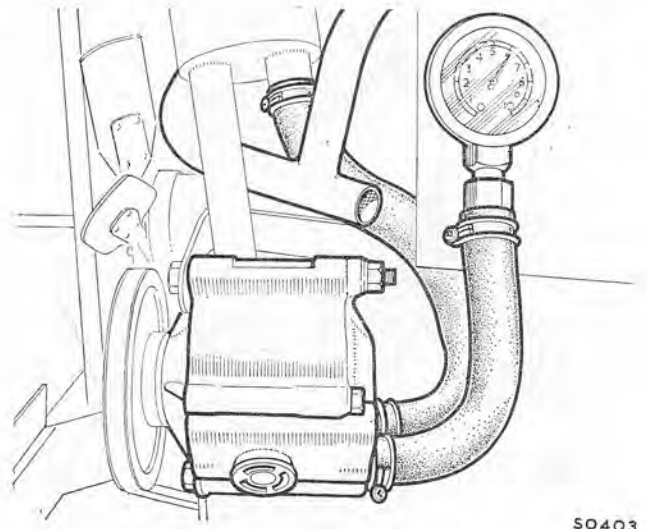

Fig. 7
- (3) Connect a tachometer to the engine in accordance with the instrument maker's instructions.
- (4) Disconnect the air supply hose tee connection from its connection with the air pump discharge hose.
- (5) Connect a pressure gauge to the air pump discharge hose (see Fig. 7).
- (6) Run the engine at the air pump test speed given in 'TUNING DATA'. A gauge reading of not less than 2.75 lb./sq. in. should be registered.
- (7) If the foregoing tests fail to remedy or locate the cause of the air pump noise renew the air pump assembly.